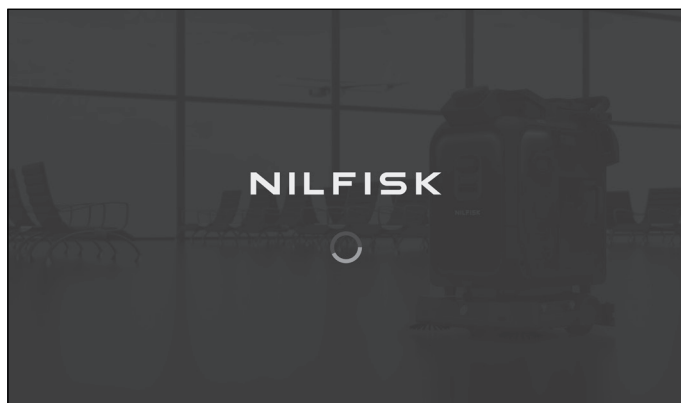

Figure 12
1. Turn on the VP25 and wait for the touchscreen to start up (**Fig. 12**).